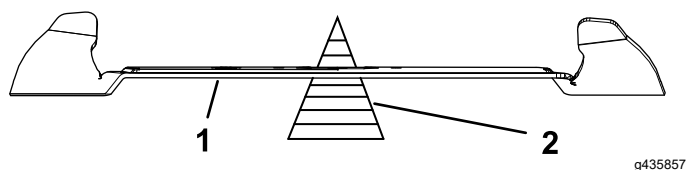

Figure 90
2. Check the balance of the blade by putting it on a blade balancer (Figure 90).
Note: If the blade is not balanced, file some metal off the heavy end of the blade in the sail area only (Figure 90).